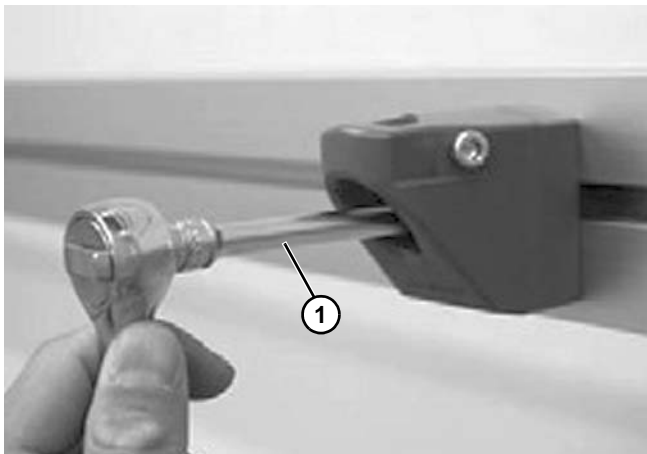

Figure 98
2. Attach the bracket onto conveyor beam and tighten with a socket wrench (Figure 98, item 1).